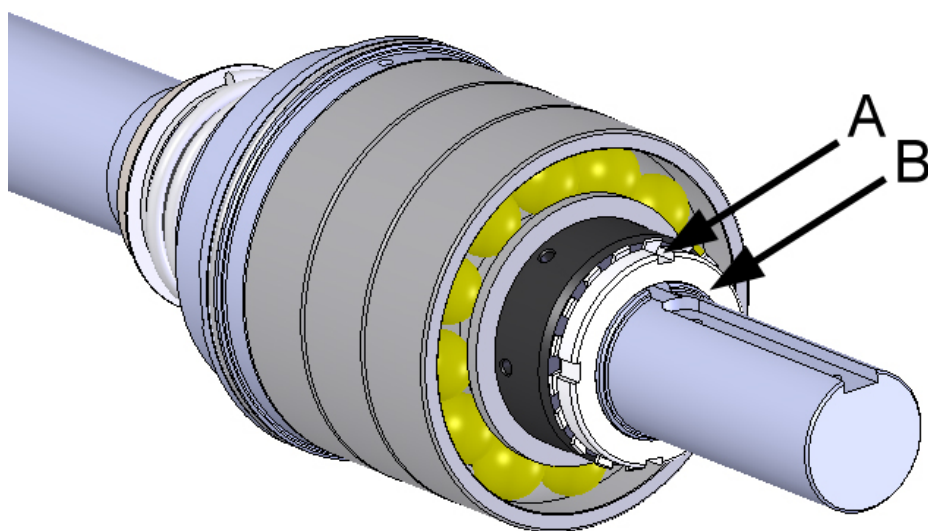

Figure 5. Removing the lock washer
8. Turn the lock washer tooth (figure 5, point A) up from the shaft nut groove, and unscrew the shaft nut (figure 5, point B).